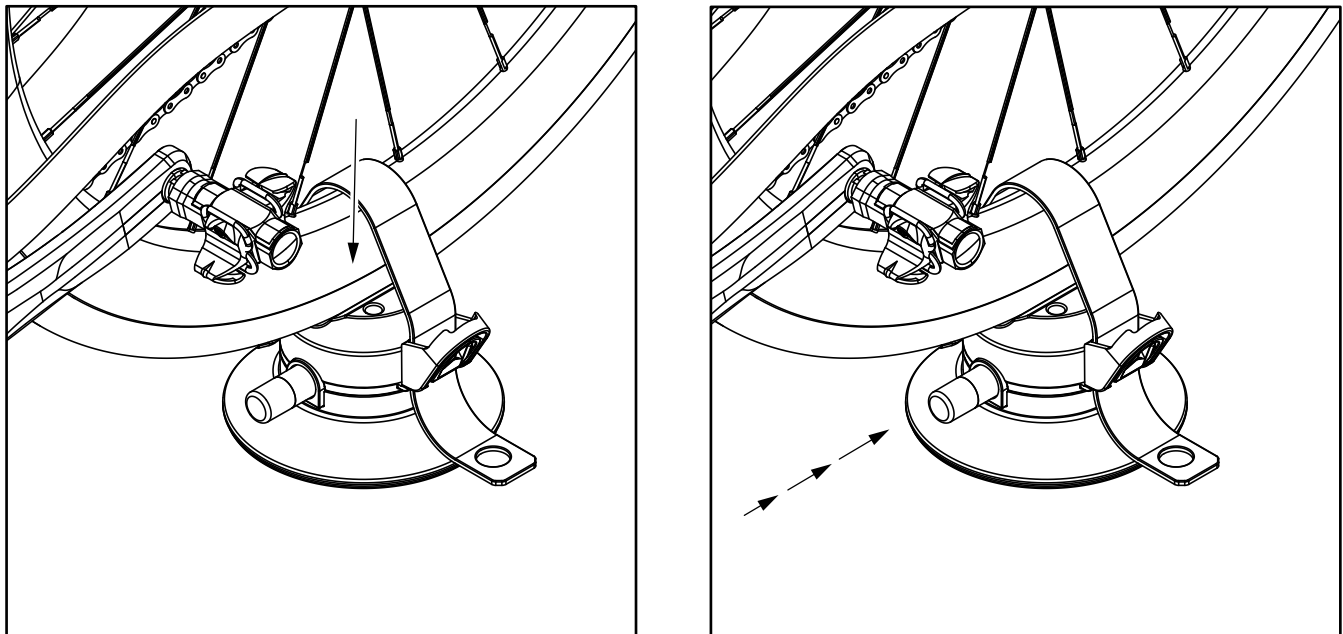

FIGURE 14
STEP 7: Create a suction seal by applying downwards pressure to the top of the Rear Assembly and manually pumping the button on the suction cup as shown in **Figure 14**. Once the red barrel indicator on the button is no longer visible, the suction cup is properly sealed to the vehicle.